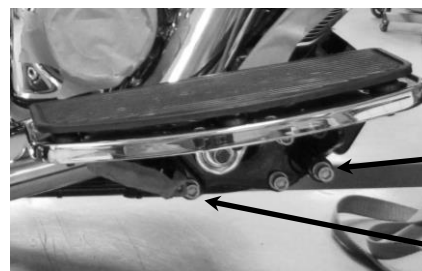

FIGURE 11
28. Insert the supplied floorboard spacer plate between the rear floorboard mount and the frame, then align the dowel pin and reinstall the allen bolt. Tighten to factory specifications. See **FIGURE 11**.
29. Remove the allen bolt from the right front floorboard mount. Place the supplied thick washer between the front floorboard mount and the frame. Reinstall and tighten the allen bolt to factory specifications. See **FIGURE 11**.